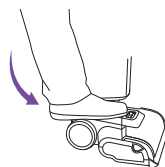

fig. 1
1. Gently step on the base and tilt the handle back (fig. 1).